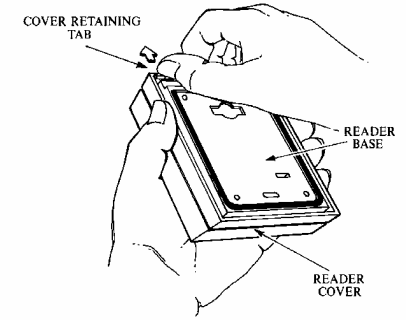

Figure 3
- Hold the reader in the palm of your hand with the base facing up, and with the card insertion slot pointing away from you, as shown in figure 3.